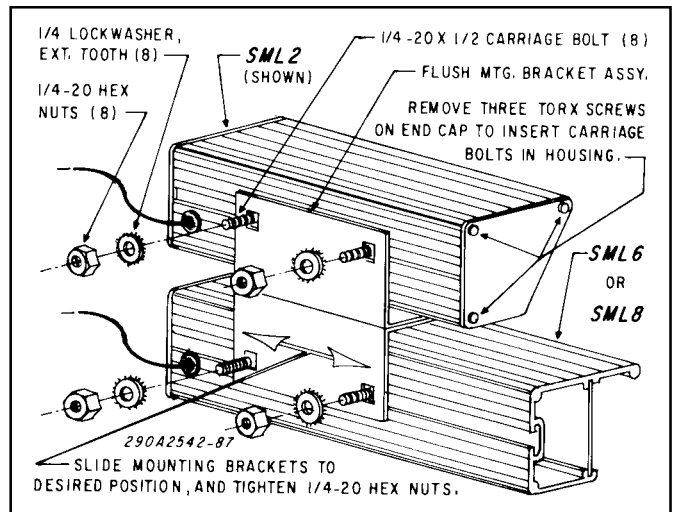

Figure 2.
b. Remove an end cap from each unit. See figure 2. Slide two carriage bolts in the slot of each SML1/SML2 and four carriage bolts in the slot of the SML6/SML8. Replace the end caps.